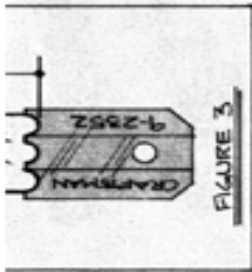

FIGURE 3
71. Select two 36" lengths of stock from which to make the beading on the door frame (**Figure 3**).